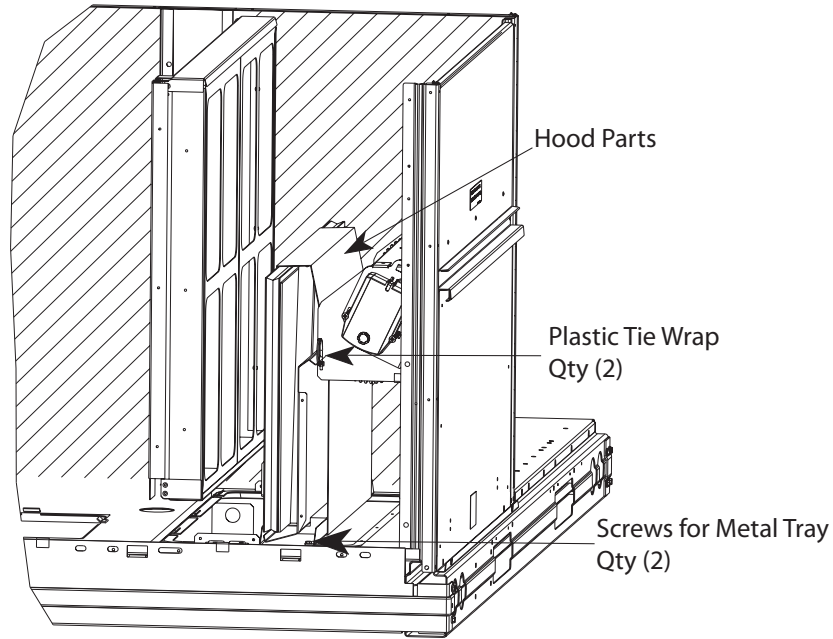

Fig. 9 - Damper Assembly
3. Locate the (2) screws holding the metal tray to the basepan and remove. Locate and cut the (2) plastic tie-wraps securing the assembly to the damper. (See Fig. 9.) Be careful to not damage any wiring or cut tie-wraps securing any wiring.